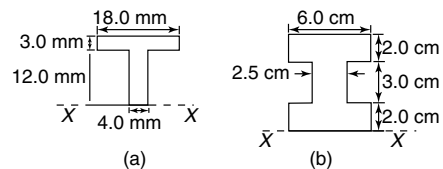

Figure 7.24
9. For the sections shown in Figure 7.24, find the second moment of area and the radius of gyration about axis  $XX$